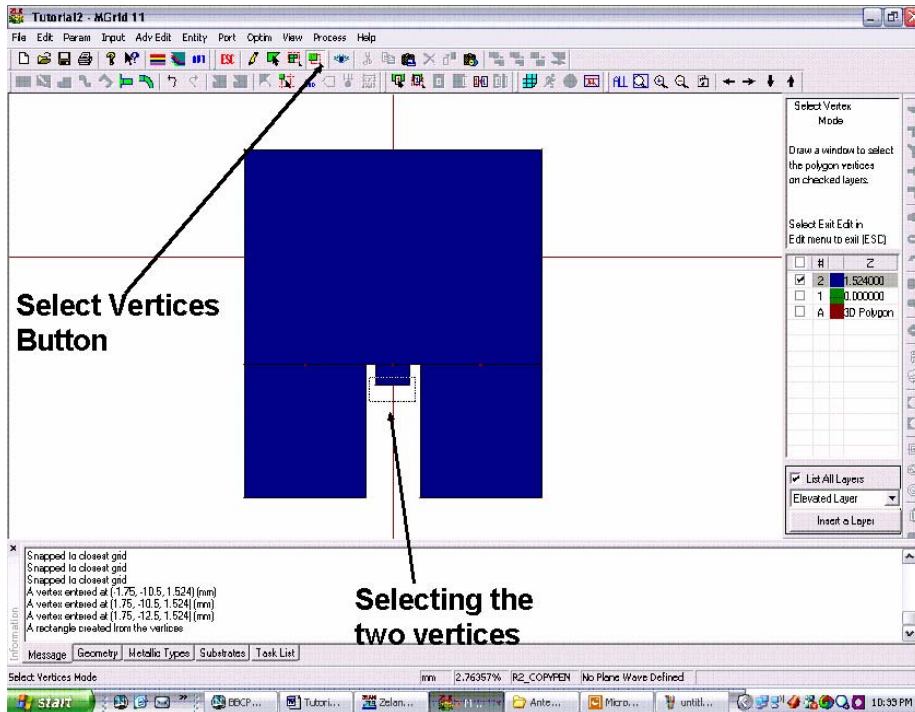

Figure 15. Increasing the length of the microstrip feed by selecting the two lower vertices of the microstrip line and extending them.
- 17) Press the “Select Vertices” button (  ) as shown in Figure 15. Once again, the shape of the cursor changes to (  ). Move your mouse cursor close to the lower two vertices of the latest drawn rectangle and press the left mouse button. While the button is pressed, move the cursor and select the lower two vertices of the microstrip feed rectangle. After the vertices are selected you can move them or delete them to change the overall shape of the structure.